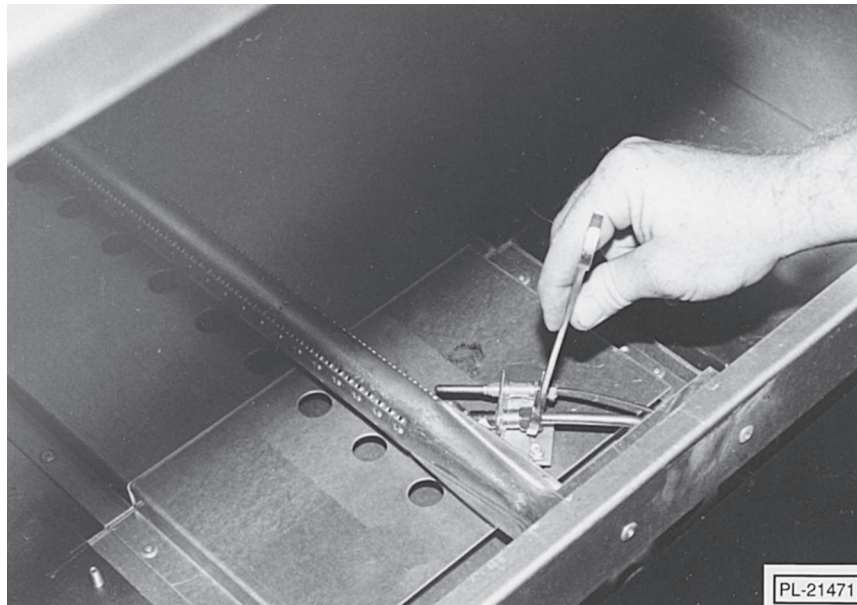

Fig. 41
3. Disconnect pilot from gas tubing (Fig. 41).